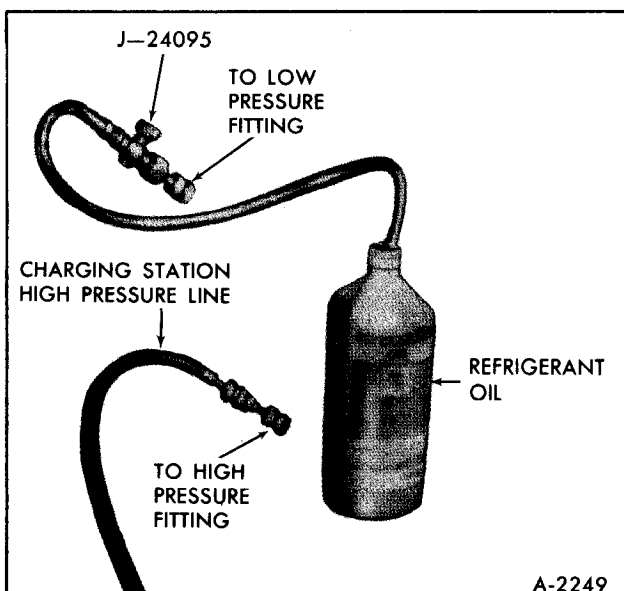

Figure 25—Adding Refrigeration Oil
- a. Disconnect the Charging Station low pressure line. Install Tool J-24095 (with valve closed) onto the system low pressure fitting. Insert pickup tube into graduated container of clean refrigerant oil (figure 25).